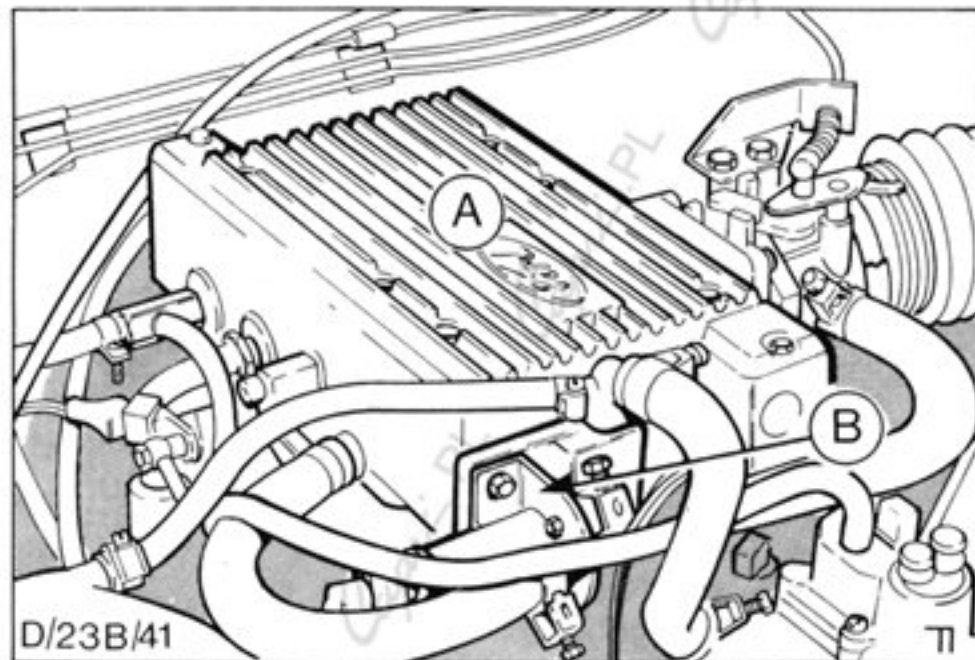

Fig.92. Air box assembly.
- Auxiliary air device, Fig.92.
8. Remove eight bolts, detach air box and position clear of inlet manifold, Fig.92.